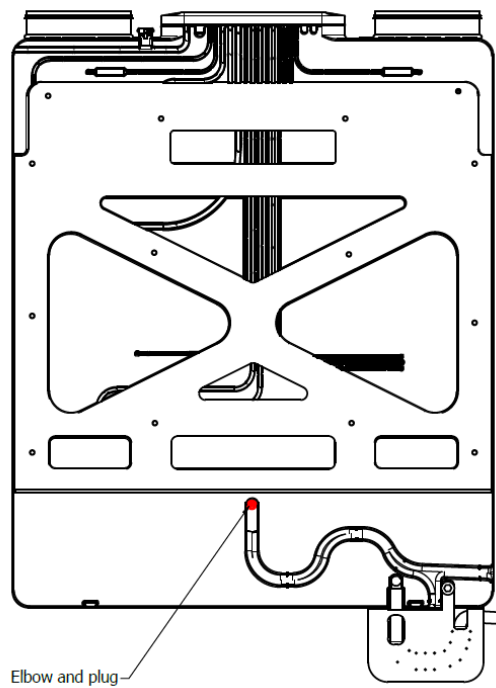

Figure 18 – Elbow and plug
1. Pull out the plug from place marked on figure 18